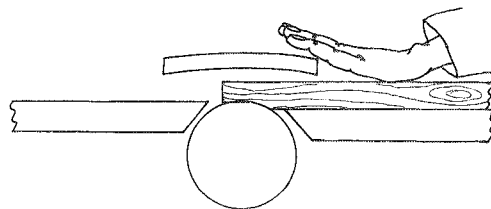

Fig. 3.29 Step 2 of feeding.
- *Step 2.* As the left hand approaches the guard raise the fingers to pass over the top but still leave pressure from the palm or base of the hand (**Fig. 3.29**).